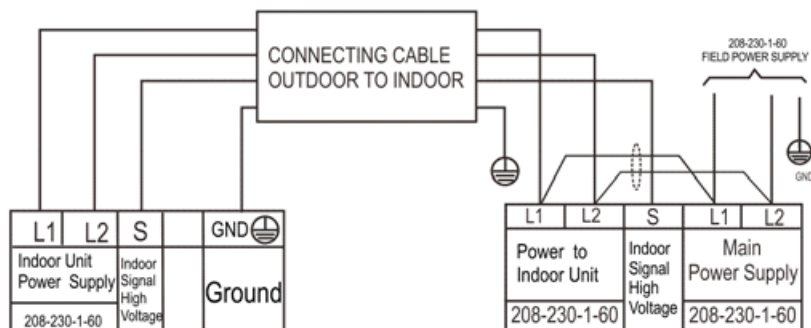
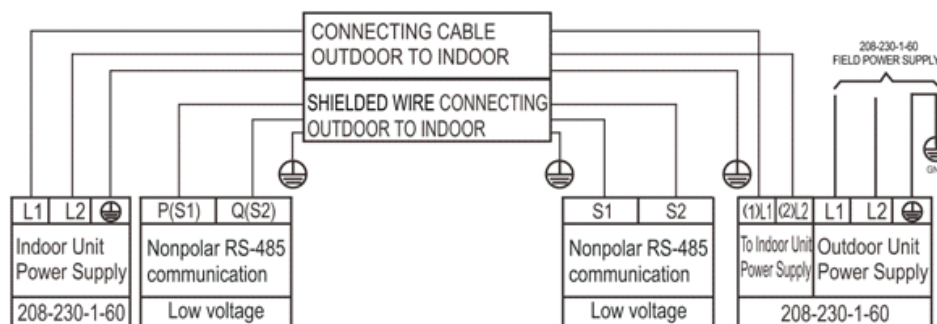

Fig. 39 — Connection Diagrams (sizes 09K to 24K)
Fig. 40 — Connection Diagrams (sizes 36K and 58K)
2. Connect the wiring from the outdoor unit per the connection diagram (see Fig. 39 — on page 21 and Fig. 40).